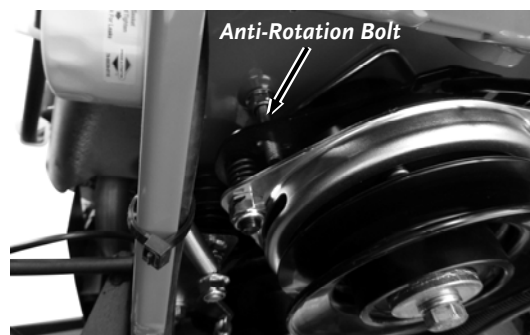

Figure 37
- The clutch is located properly on the Anti-Rotation Bolt (**Figure 37**).